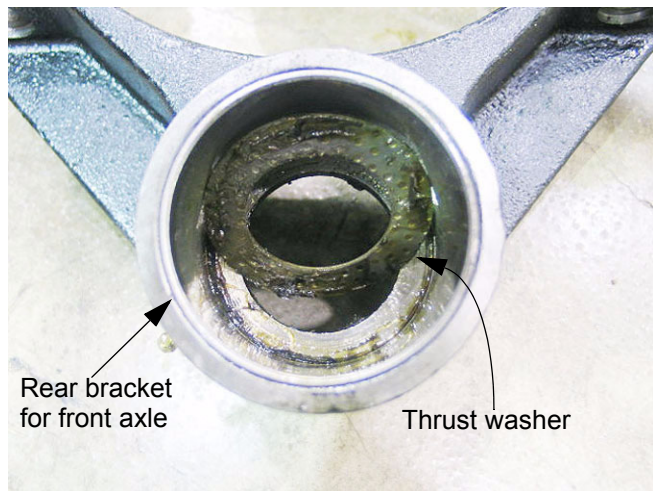

Figure 4.2
- 4.2. Confirm that the thrust washers are in place in both front axle brackets. See Figure 4.2.